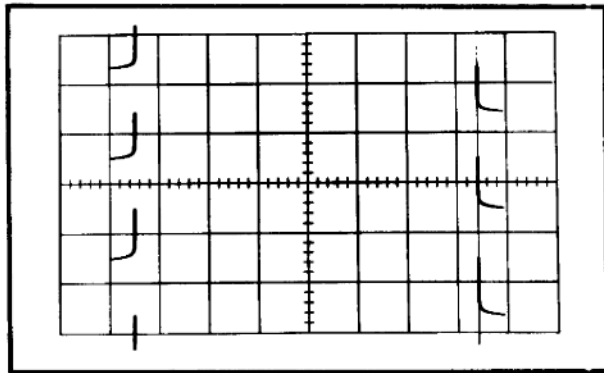

Fig. 5-16. Distortion obtained when C503C is misadjusted.
- c. Adjust C503C (see Fig. 5-2) for optimum square-wave response. (Fig. 5-16 shows one form of distortion if C503C is misadjusted.) The display should exhibit no more than 5% hook on the positive-going or negative-going portion of the calibrator waveform. When C503C is properly adjusted, the calibrator waveform should be similar to the display shown in Fig. 5-15a.